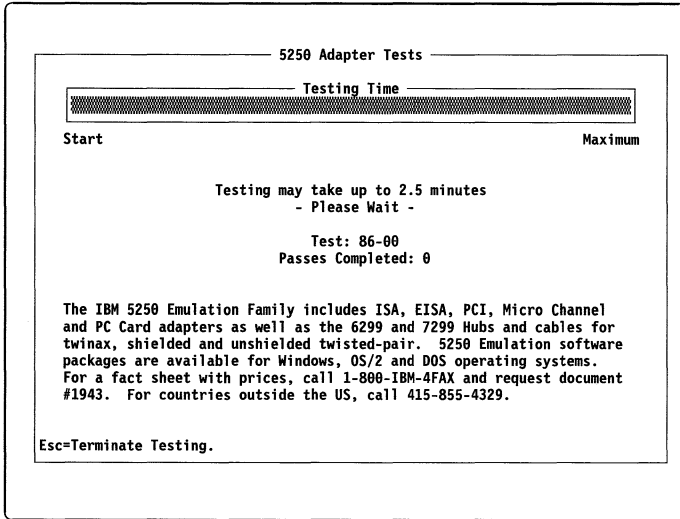

Figure 10. 5250 Adapter Tests Screen
8. When the 5250 Emulation Adapter Test Menu appears again, highlight **Start Tests** with the selection bar and press Enter. While the tests run, the 5250 Adapter Tests screen, similar to the one shown in Figure 10, appears.